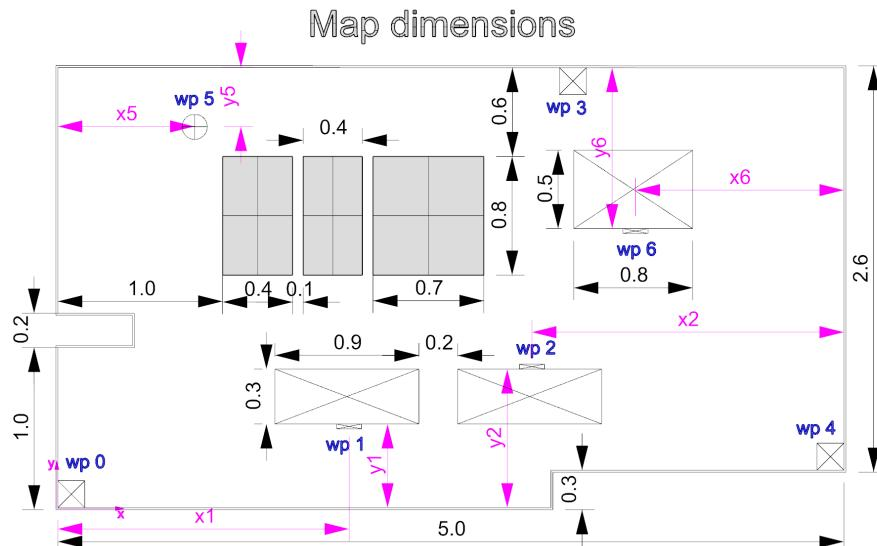

Figure 6: Map dimension to build an environment in ROS gazebo
In this task, students are requested to build a map (.world) in ROS Gazebo. The dimensions of the map are presented in Fig. 6. The height of walls is approximately 0.5 meters, and windows should be added to allow visibility of the robot during mission execution. Please assume the missing dimensions.
5.b Task: Build a map in Gazebo for map in Fig. 6 and save it as "turtlebot3_ttk4192.world" at `/catkin_ws/src/turtlebot3_simulations/turtlebot3_gazebo/worlds`. Note that working in gazebo constructor environment could be a bit challenging, and some bugs could appear, so you will need to do it carefully. Comment any problem that you had found and how you solve it in your report.